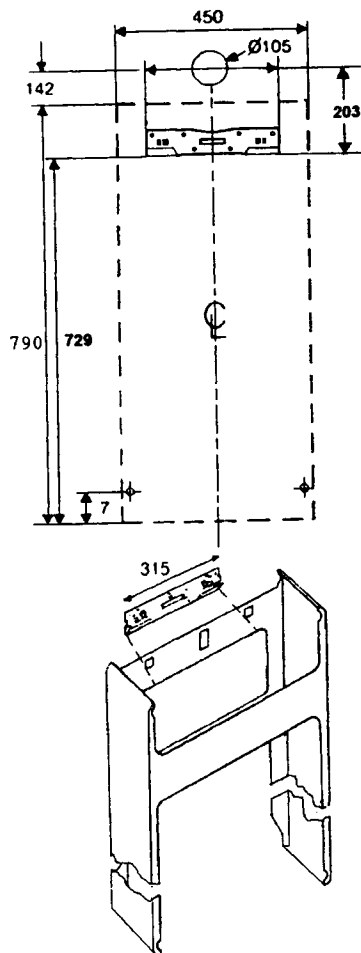
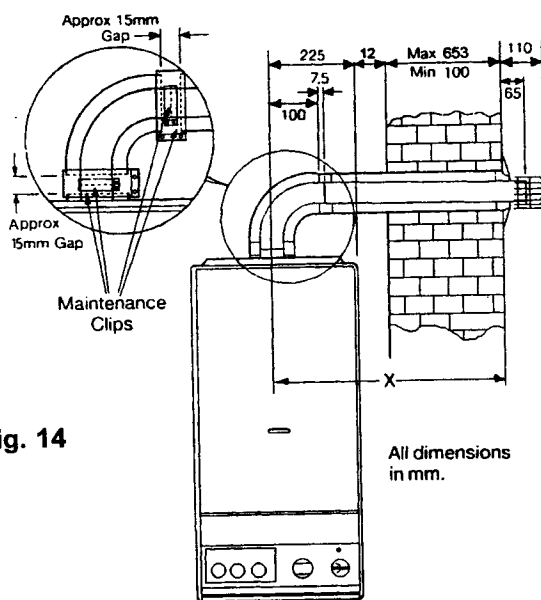

Fig. 13
Fig. 14
5.4 Mounting the Appliance (Fig. 13)
Alternatively, position bracket and holes to dimensions in fig. 13.
Refer to fig. 13 and figs. 14 - 18 for relevant dimensions for locating the hole. Where it is remote from the boiler take special care to ensure hole is at the correct level so that the finished flue is horizontal.
Refer to figures 14 - 18
5.5.3 Hang the boiler on the bracket. Adjust the boiler sideways to its correct position. Measure carefully from the actual face of the outside wall from the centre of the flue bend. (Dimension X on Figs. 14 & 15).
Locate the small maintenance clip onto the flue elbow fig. 14 and assemble onto the flue outlet on the top of the boiler. Twist the flue bend to the outlet direction required, and tighten the maintenance clip to secure the flue bend in place. Carefully level across to check that the hole through the wall is 1° lower than the flue bend.
5.5.16 Referring to fig. 14 fit the large maintenance clips into position and secure the clip screws.
- 5.5.19 When the flue and appliance are finally positioned screw the lower frame to the wall (fig. 13)
- 5.5.27 Referring to fig. 14 assemble a small maintenance clip on the outlet of the boiler flue bend. Push the inner flue tube into clip and tighten clip screws.
- 5.5.29 Referring to fig. 14 fit the large maintenance clip into position and tighten clip screws.
- 5.5.39 Referring to fig. 14 fit the large maintenance clip into position and secure clip screws.